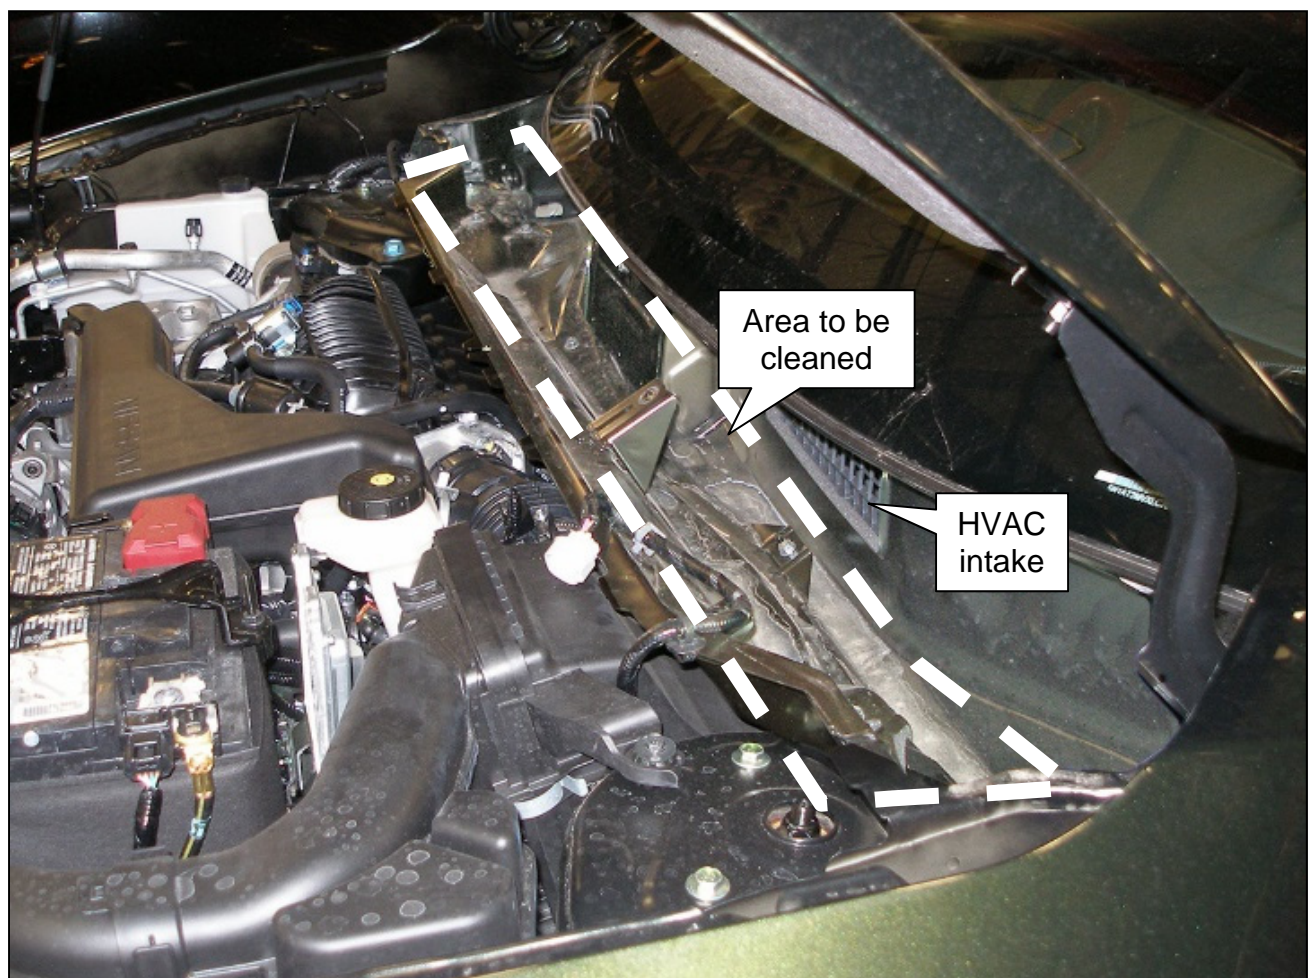

Figure 1
3. Clean out all foreign debris in the cowl area and the area around the HVAC intake where shown in Figure 1.